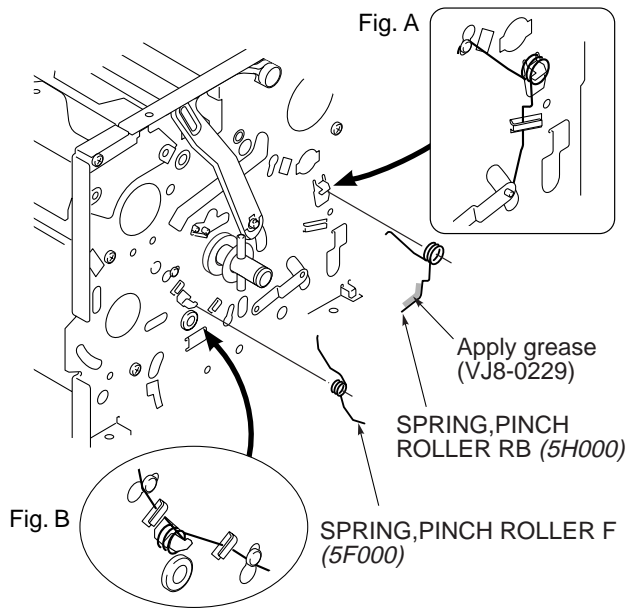
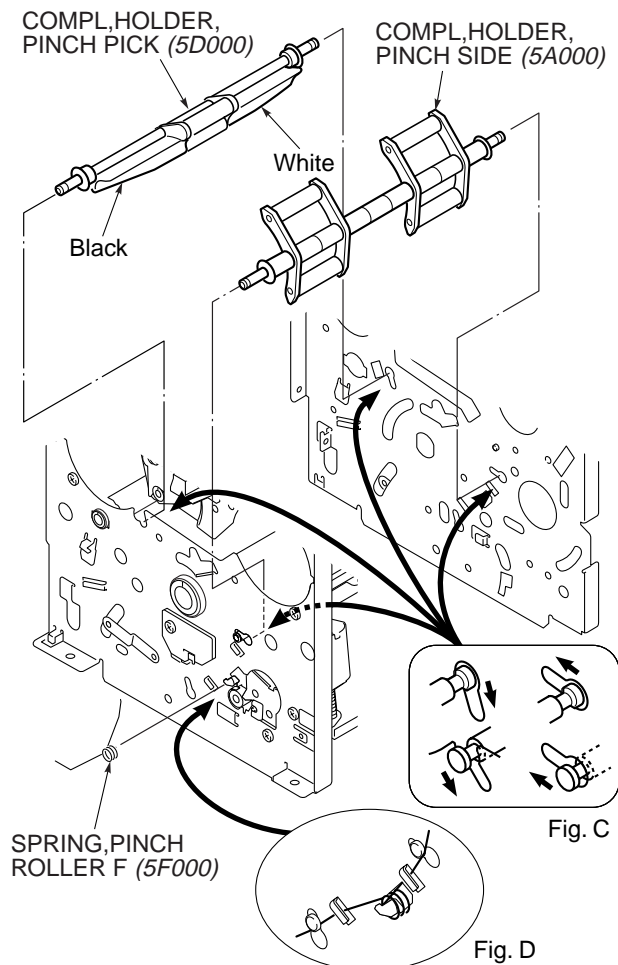
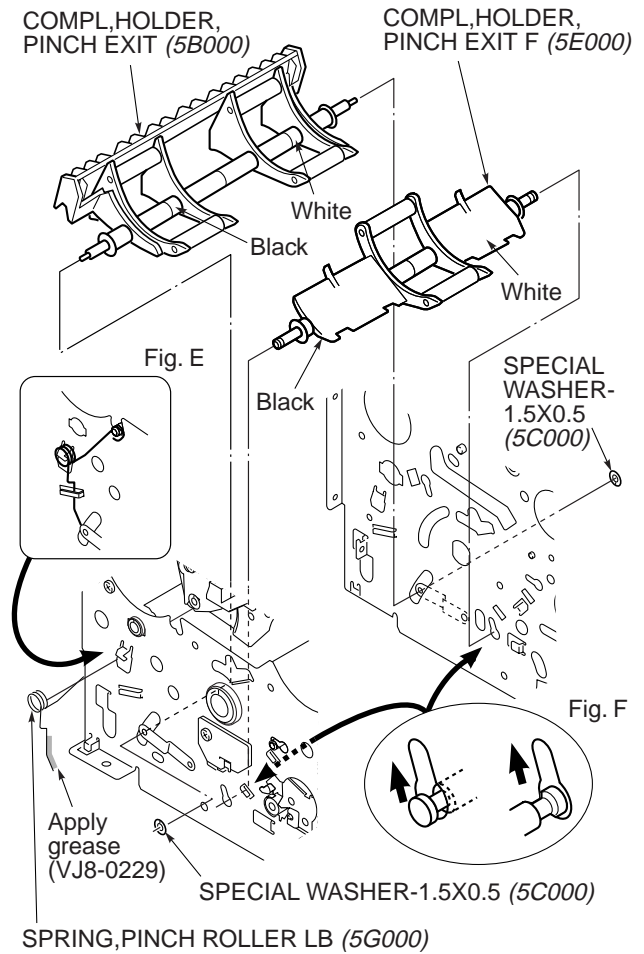

Fig. 3-11-1
Fig. 3-11-2
Fig. 3-11-3
(See Figs. 3-11-1 to 3-11-3)
- 7) Remove the "SPRING,PINCH ROLLER F (5F000)" on the both sides. (Refer to Fig. 3-11-1 and Fig. 3-11-2.)
- 8) Remove the "COMPL,HOLDER,PINCH SIDE (5A000)". (Refer to Fig. 3-11-2.)
- 9) Remove the "SPRING,PINCH ROLLER RB (5H000)" and the "SPRING, PINCH ROLLER LB (5G000)". (Refer to Fig. 3-11-1 and Fig. 3-11-3.)
- 10) Remove the "COMPL,HOLDER,PINCH PICK (5D000)". (Refer to Fig. 3-11-2.)
- 11) Remove the "COMPL,HOLDER,PINCH EXIT F (5E000)". (Refer to Fig. 3-11-3.)
- 12) Remove the two "SPECIAL WASHER-1.5X0.5 (5C000)" on the both sides and the "COMPL,HOLDER,PINCH EXIT (5B000)". (Refer to Fig. 3-11-3.)
1. Install the "COMPL,HOLDER,PINCH EXIT (5B000)" so that the left and the right (the black part and the white part) of it are in proper position. (Refer to Fig. 3-11-3.)
2. Install the "COMPL,HOLDER,PINCH EXIT F (5E000)" so that the left and the right (the black part and the white part) of it are in proper position. Insert shafts of the both side into the each big holes, then move them to the each small holes as shown in Fig. F of Fig. 3-11-3.
3. Install the "COMPL,HOLDER,PINCH PICK (5D000)" so that the left and the right (the black part and the white part) of it is in proper position. Insert shafts on both sides into each big hole, then move them to each small hole as shown in Fig. C of Fig. 3-11-2.
4. Install the "SPRING,PINCH ROLLER LB (5G000)" as shown in Fig. E of Fig. 3-11-2.
5. Install the "SPRING,PINCH ROLLER RB (5H000)" as shown in Fig. A of Fig. 3-11-2.
6. Apply grease (VJ8-0229) to points where the shafts of the "COMPL,HOLDER,PINCH EXIT (5B000)" contact the "SPRING,PINCH ROLLER RB (5H000)" and "SPRING, PINCH ROLLER LB (5G000)". (Refer to Fig. 3-11-1 and Fig. 3-11-3.)
7. Insert shafts of both sides of the "COMPL,HOLDER,PINCH SIDE (5A000)" into each big hole, then move them to each small hole as shown in Fig. C of Fig. 3-11-1.
8. Install the "SPRING,PINCH ROLLER F (5F000)" as shown in Fig. B of Fig. 3-11-1 and Fig. D of Fig. 3-11-2.